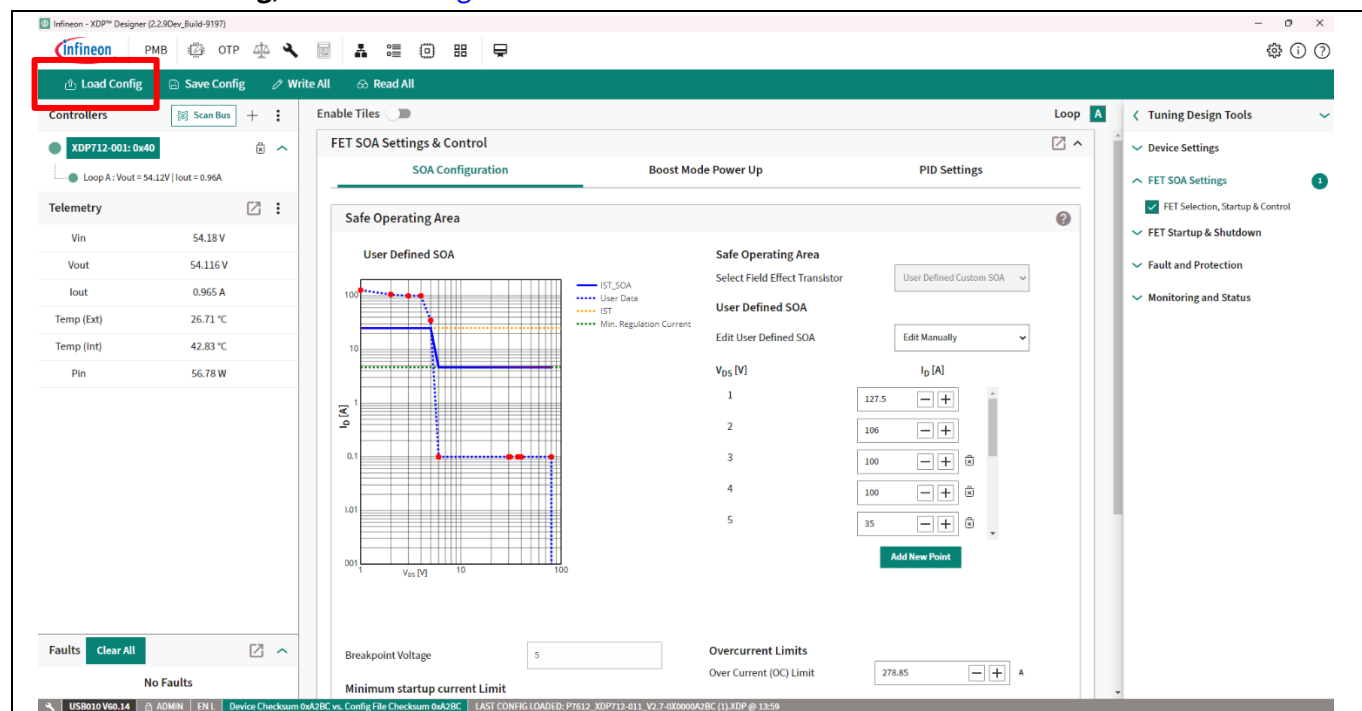

Figure 37 Select Load Config option
1. Click **Load Config**, as shown in Figure 37